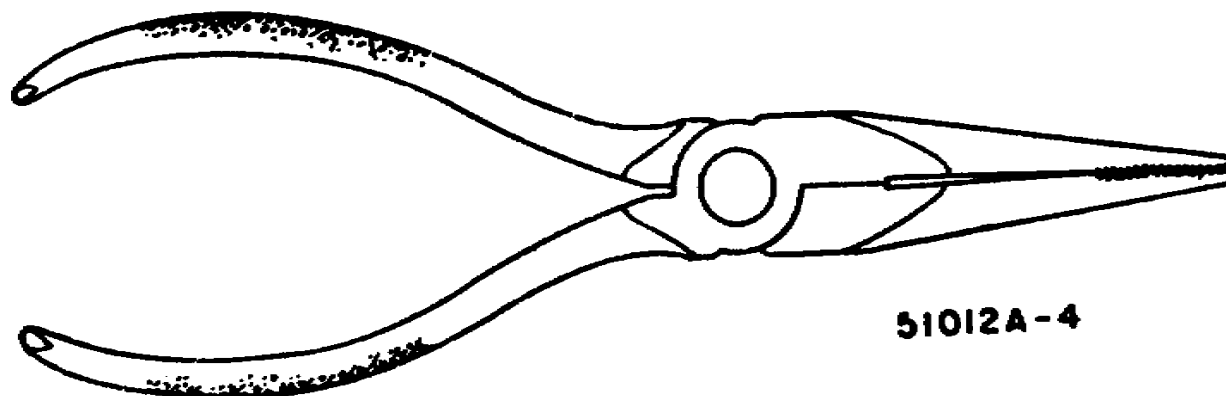

Figure 3. Longnose pliers.
- (3) Longnose pliers (fig. 3). Also called needle nose pliers, this tool can be used to bend loops, to attach wires to terminals, to grip small-diameter wire and other objects in hard-to-get-at places, and to aid in a variety of fairly delicate manipulations. In some models of this tool, the jaw includes diagonal cutting edges near the pivot. Most models have jaws with teeth; others may have smooth jaws, without teeth. With rubber bands stretched tautly across the handles, the longnose pliers will serve additionally as either a light-duty clamp or a heatsink when soldering. There are variations of needle-nose pliers, some of which you'll see in Tool Kit TK-105/G.